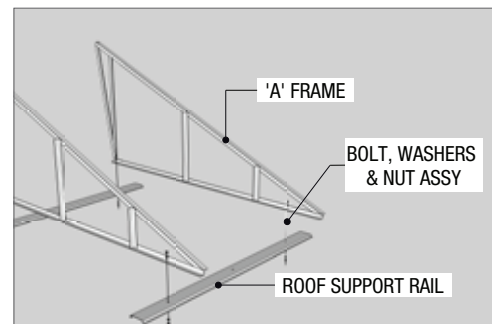

Fig 1
1. Bolt the roof supports to the underside edge of the 'A' frames using the M8 bolts and nuts with washers (Fig 1)